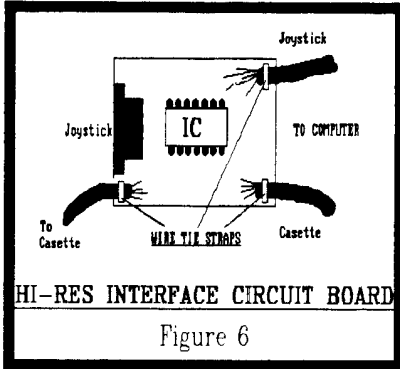

Figure 6
12. Secure the original cassette and joystick cables with two small wire ties in their original holes. Drill a third tie down whole to line up your new cassette cable with the hole you filed in the box in step 9 above. Secure your new cassette cable with a small wire tie down strap. (See figure 6)